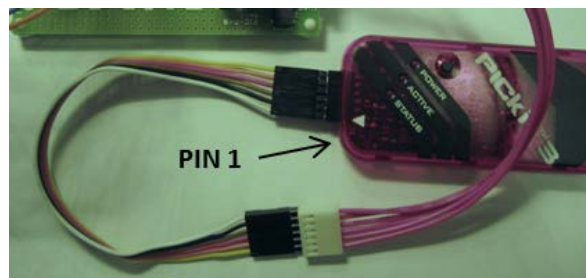

FIGURE 6-1a
2. Connect the 6-wire cable from the programming connector of the PICKkit 3 (Figure 6-1a) to the ICSP/ICD connector on the PIC-P40 (Figure 6-1b).